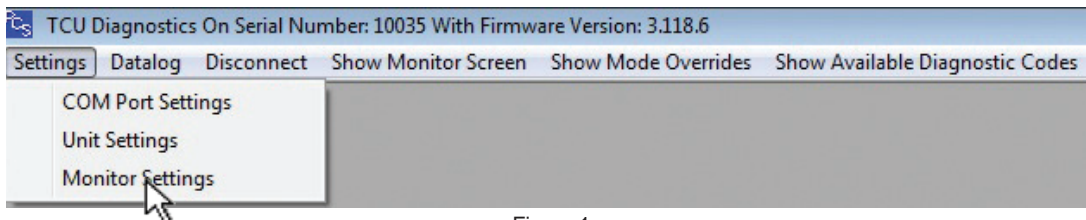

Figure 1
- Select "Settings" from the menu bar then select "Monitor Settings" from the drop down menu. **Reference Figure 1.**